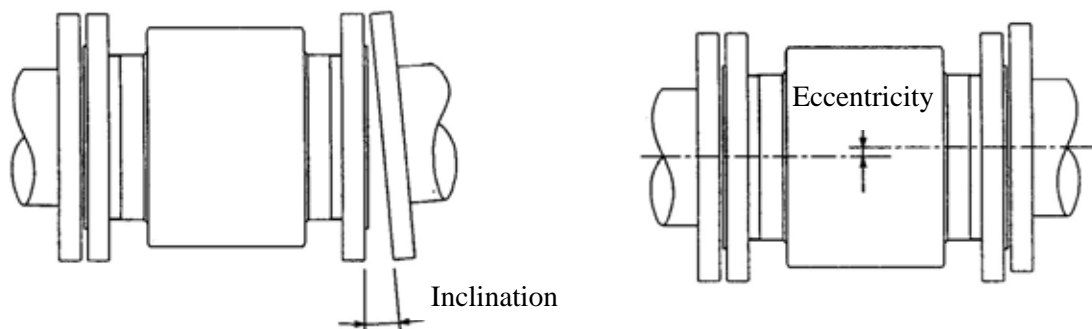

Figure 4.1 Pipe leaning and axis misplacement
- (1) Before installing pipes, check for any leaning or misplacement (or eccentricity) as illustrated in Figure 4.1. An attempt to unreasonably connecting pipes that are inclined may lead to a detector breakdown or fluid leakage. Connecting pipes in an eccentric state may also cause local wears and tears of linings and grounding rings, as well as measurement errors.